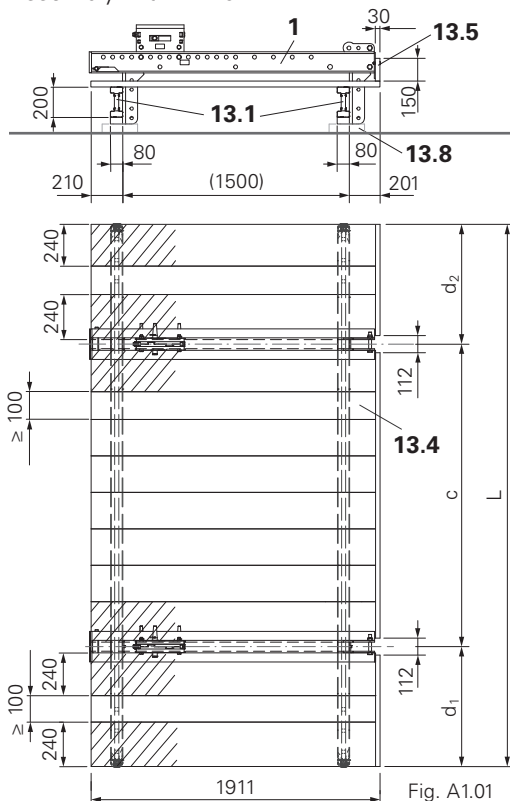
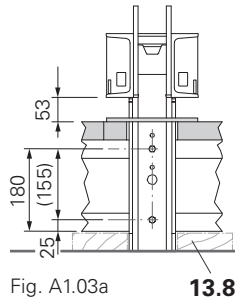
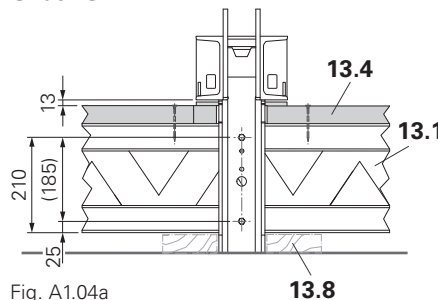

Fig. A1.01
Fig. A1.03a
Fig. A1.04a
SCS 190: 1911 mm. (Fig. A1.01)
1. Position Crossbeam (1/2) on the support timber (13.8) and align. (Fig. A1.01 or A1.02)
2. Place VT 20 (13.1) in the support of the Crossbeam and align components at right angles to each other. (Fig. A1.01 or A1.02 + Fig. A1.03a)
- Fix VT 20 to the Crossbeam using 2 x wood screws 8 x 60 in each case. (Fig. A1.01 or A1.02 + Fig. A1.03a)
Note: cut planking width ≥ 100 mm! (Fig. A1.01 or A1.02)
- Fix GT 24 to the Crossbeam using 2 x wood screws 8 x 60 in each case. (Fig. A1.01 or A1.02 + Fig. A1.04a)
SCS 190: 1911 mm. (Abb. A1.01)
(Fig. A1.01 or A1.02)
2. Place timber 80 x 160 mm (13.1) in the support of the crossbeam and align components at right angles to each other. (Fig. A1.01 or A1.02)
- VT 20: see Fig. A1.03a.
- GT 24: see Fig. A1.04a.
- SCS 190: 1911 mm. (Abb. A1.01)